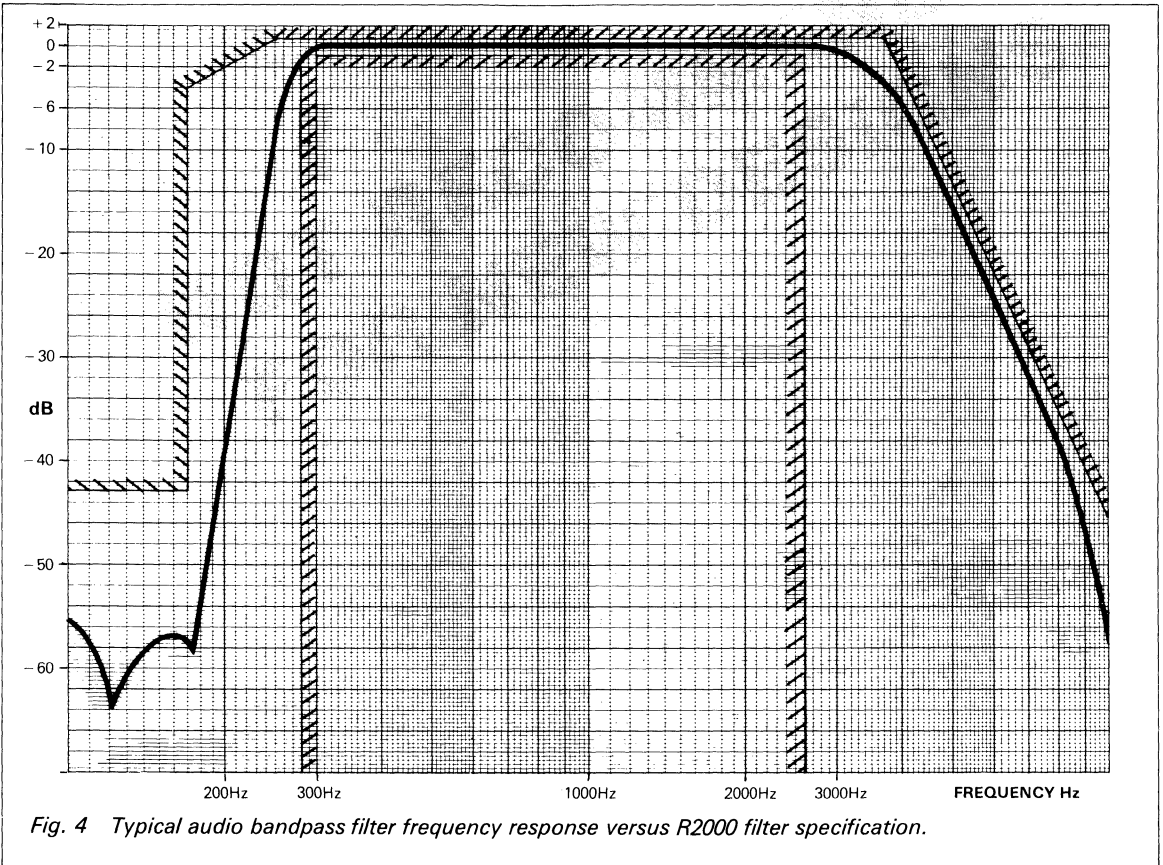

Fig. 4 Typical audio bandpass filter frequency response versus R2000 filter specification.
1. Absolute ripple — see Fig. 4.